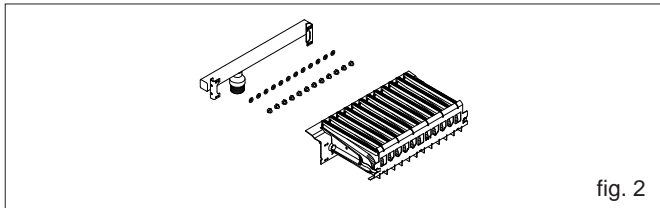

fig. 2
- using a socket or fork spanner, remove the nozzles and the washers and replace them with those found in the kit (fig. 2)